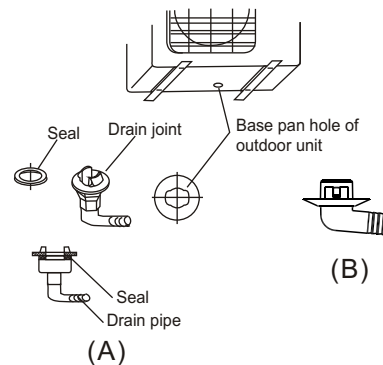

Fig.15
For the drain joint with the seal (Fig.15 (A)), first fit the seal onto the drain joint, then insert the drain joint into the base pan hole of outdoor unit, rotate 90° to securely assemble them. To install drain joint as shown in Fig.15 (B), insert the drain joint into the base pan hole of outdoor unit until it remains fixed with a clicking sound. Connecting the drain joint with an extension drain hose (Locally purchased), in case of the water draining off the outdoor unit during the heating mode.